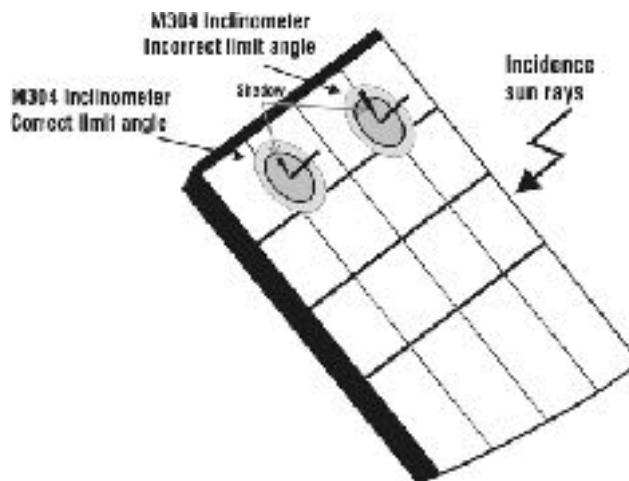

Fig. 10: Positioning the M304 inclinometer
18. Mount the M304 (inclinometer) supplied accessory, place and hold it on the plane of module. **Verify that the sun shadow falls on the disc within the “limit internal circle” on the disc itself (see Fig. 10).** If this is not the case, the incidence angle between sun rays